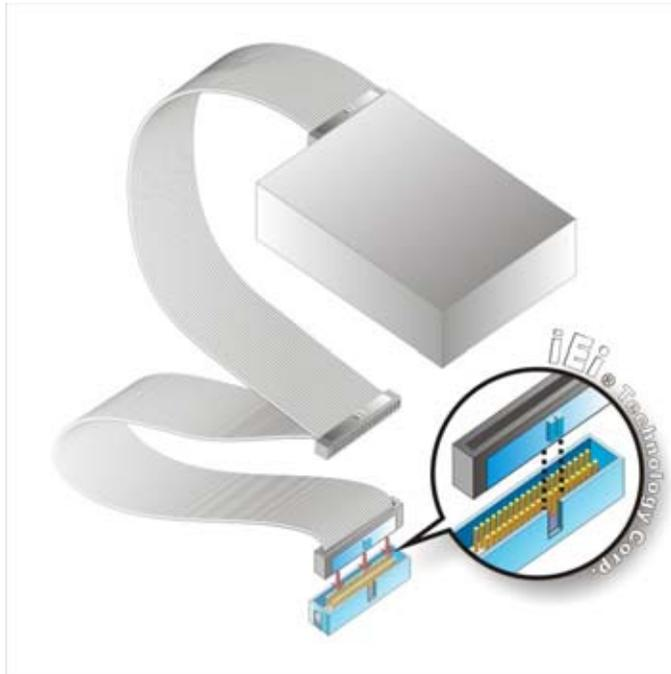

Figure 4-7: IDE Cable Connection
Step 2: Insert the connector. Connect the IDE cable connector to the onboard connector. See Figure 4-7. A key on the front of the cable connector ensures it can only be inserted in one direction.